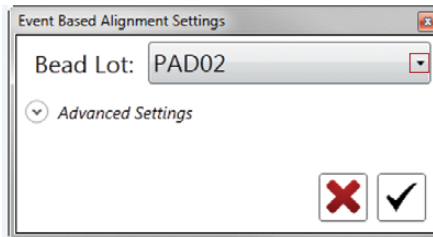

Fig. 2. Event Based Alignment Settings window with bead lot dropdown arrow selected.
4. Select your Bead Lot in the Event Based Alignment Settings window and click the **checkmark** (Figure 2). The software will perform both event-based alignment and drop delay setting.